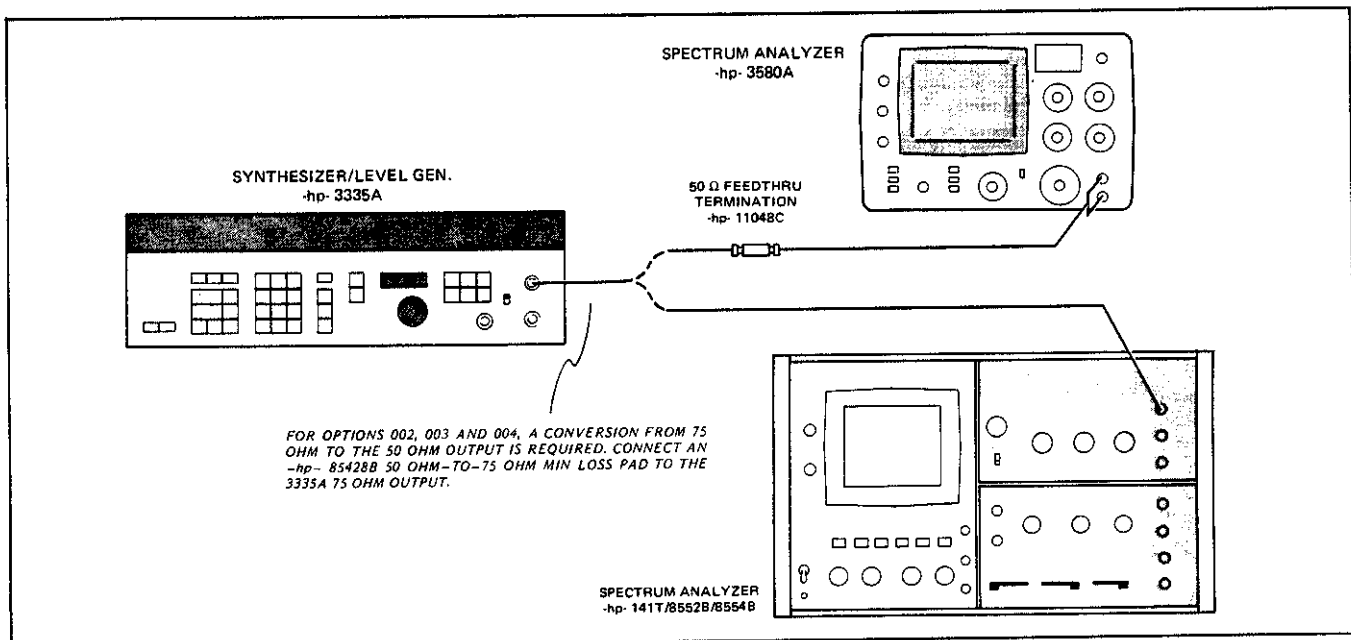

Figure 4-4. Spurious Response Test (Known).
1. Connect the test set-up as shown in Figure 4-4 using the 3580A Spectrum Analyzer first.
5. Replace the -hp- 3580A Spectrum Analyzer with the 141T/8552B/8553B (see Figure 4-4) Spectrum Analyzer. Set the 141T/8552B/8553B for a normal display with the input attenuator set to 40 dB.